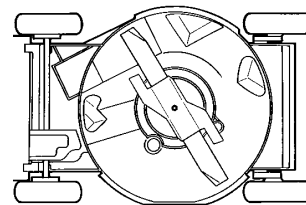

Figure 26
3. Tip the mower on its left side (Fig. 26). Avoid rotating the blade because starting problems may result.